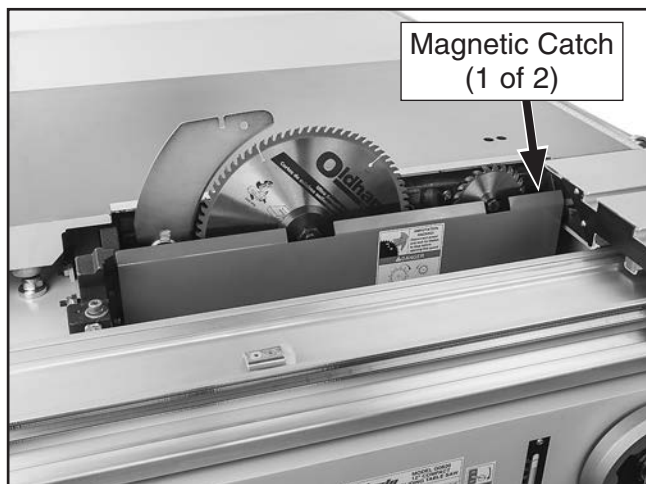

Figure 30. Location of magnetic catches that secure blade cover.
21. Move sliding table all the way forward to expose blade cover. Pull blade cover toward front of machine to disengage magnetic catches (see **Figure 30**).